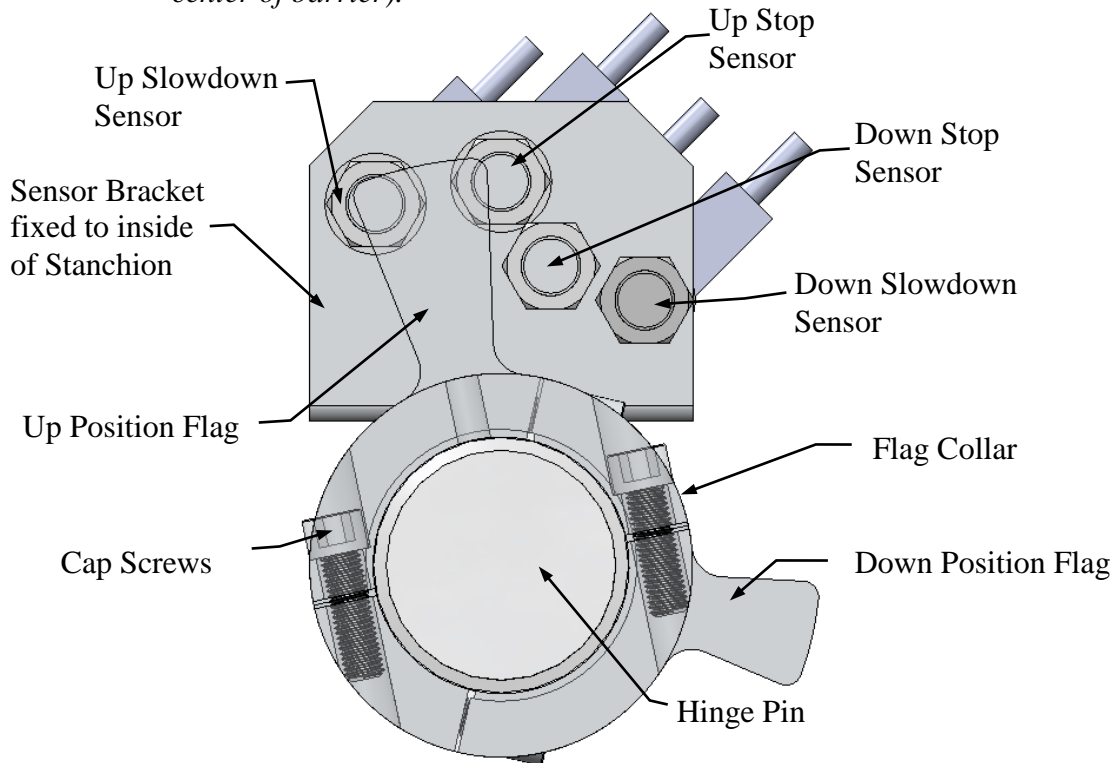

Figure 17 - Limit Switch Sensor Components (View looking outward from center of barrier)
- 3.3.8.1.2. There are four (4) sensors, Up Slowdown, Up Stop, Down Stop and Down Slowdown. The two flags are sized differently. The larger flag is for controlling the up position and the smaller flag for the down position. See *Figure 17 - Limit Switch Sensor Components (View looking outward from center of barrier)*.